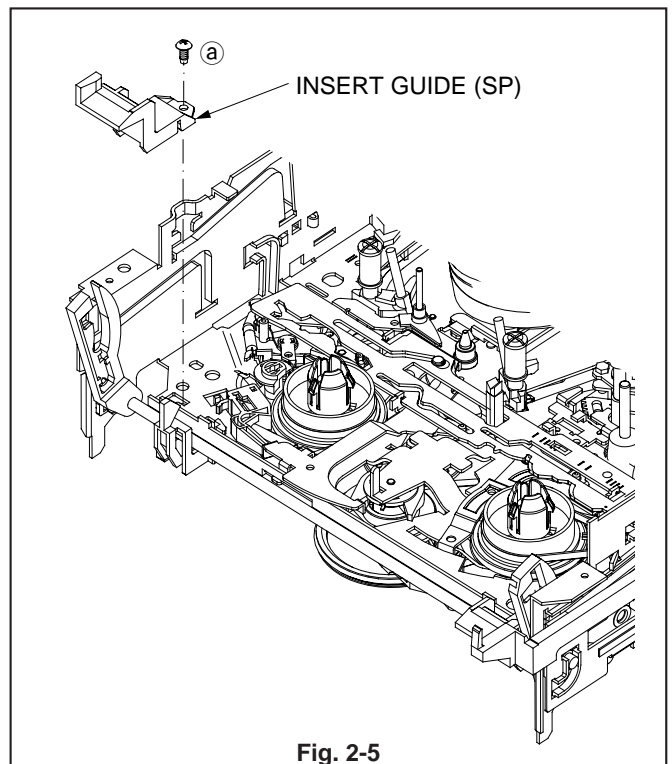

Fig. 2-5
1. Remove the screw (a) fastening the INSERT GUIDE (SP) shown in Fig. 2-5 to remove the INSERT GUIDE (SP).
1. Install the INSERT GUIDE (SP) shown in Fig. 2-5.